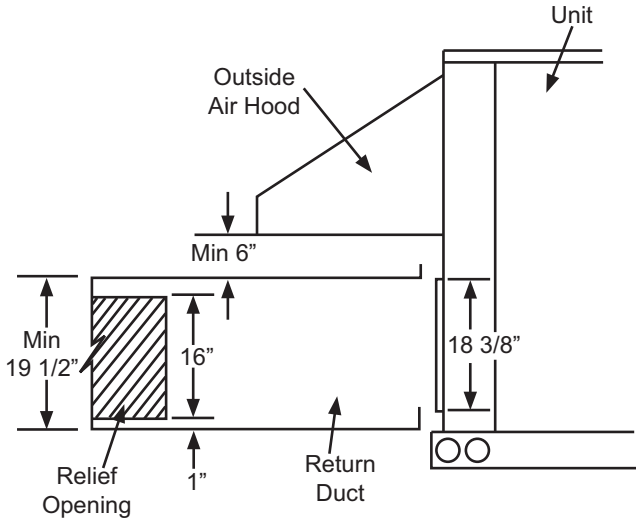

Fig. 1 - Relief Damper
2. Install field provided horizontal ductwork onto unit. Duct height must be at least 19-1/2" high, however duct can be no taller than top of relief opening in bottom panel (otherwise airflow into outside air hood will be restricted). (See Fig. 1.)
3. Cut 16" x 36" opening in return duct for relief damper. (See Fig. 1.)